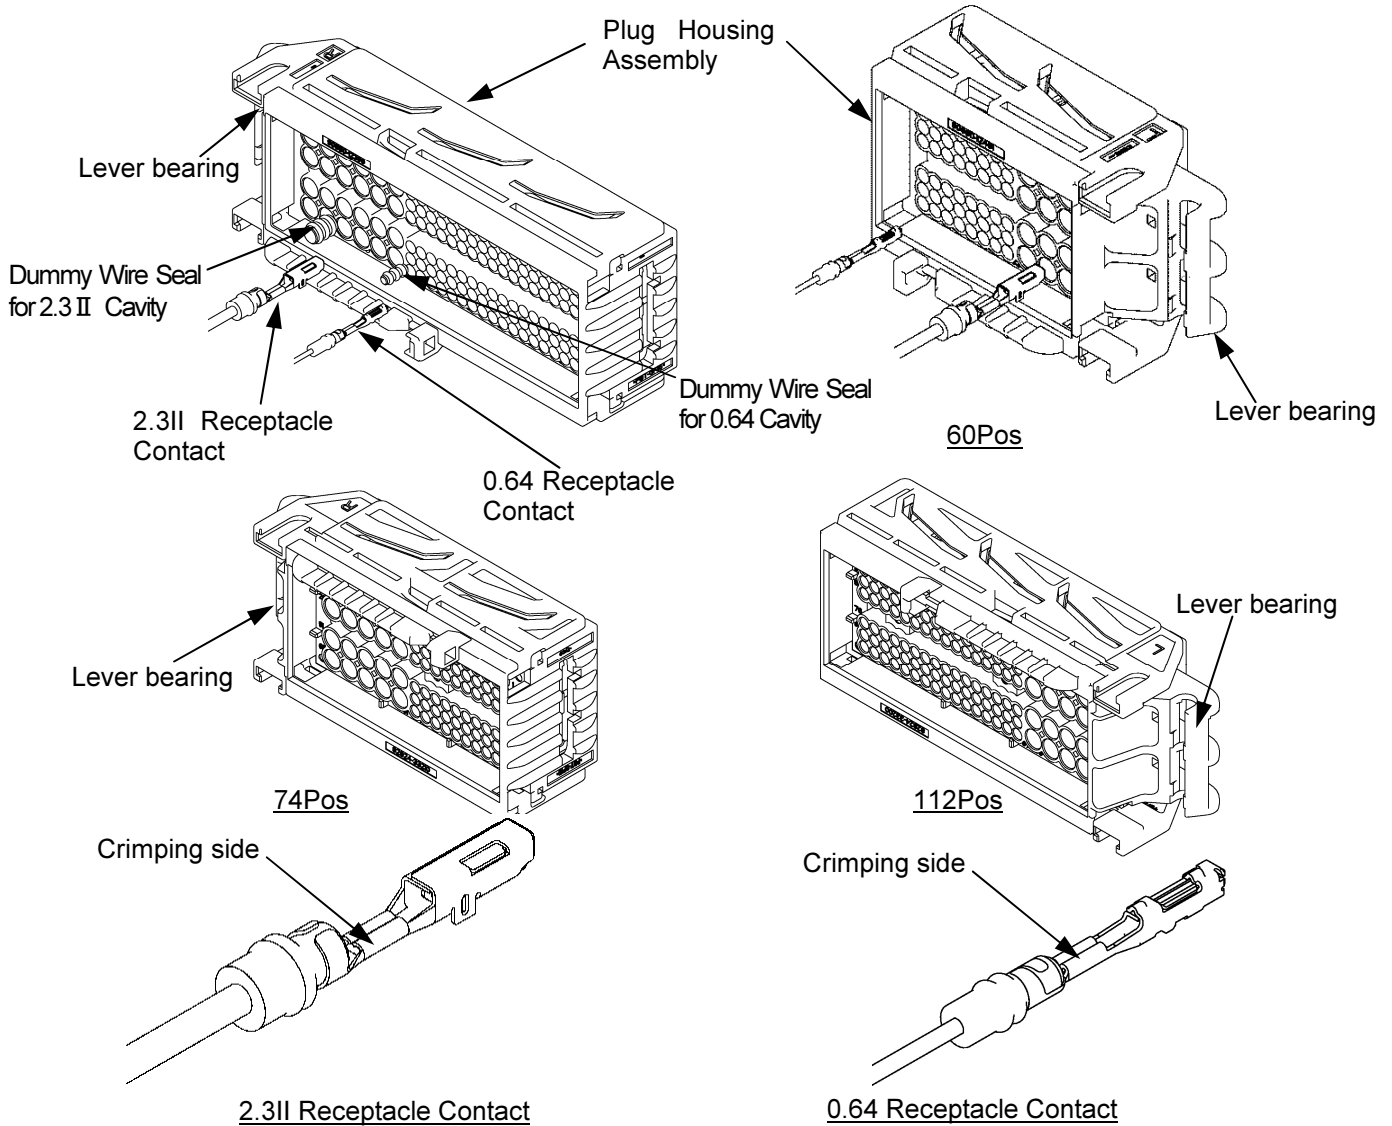

Fig.17
- (4) 79/89/126 pos turn the lever bearing to left as shown in Fig.17, and 60 pos insert the crimping side of 0.64/2.3II Receptacle terminal with the lever bearing turned to right and insert terminal into the housing. The insertion is finished when housing lance is locked and the terminal can not be more inserted. If harness has any blanked cavities, dummy rubber plugs must be inserted.